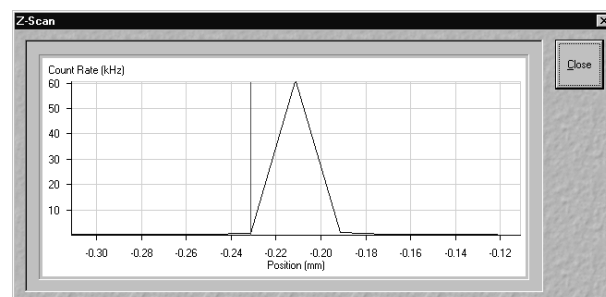

Fig. 5-392 Z-Scan image
- After pressing the **Start** button a Z scan is performed and the intensity displayed in dependence of the Z position (see Fig. 5-392). The red line in the diagram shows the actual Z position. Peaks show Z levels of high signal intensity and may correlate to labeled membranes. Note, that the glass surface will also give a peak. To determine its position, just perform a Z Scan at a position where there is no cell. Place the red line at the peak that corresponds to the membrane to select this Z position.